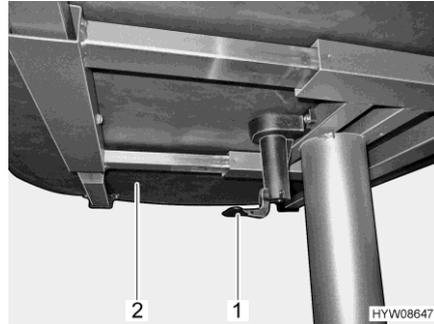

Fig. 64 Lever for moving the table top
- Pull or press down the lever (Fig. 64,1).
- Move the table top (Fig. 64,2) to the desired position.